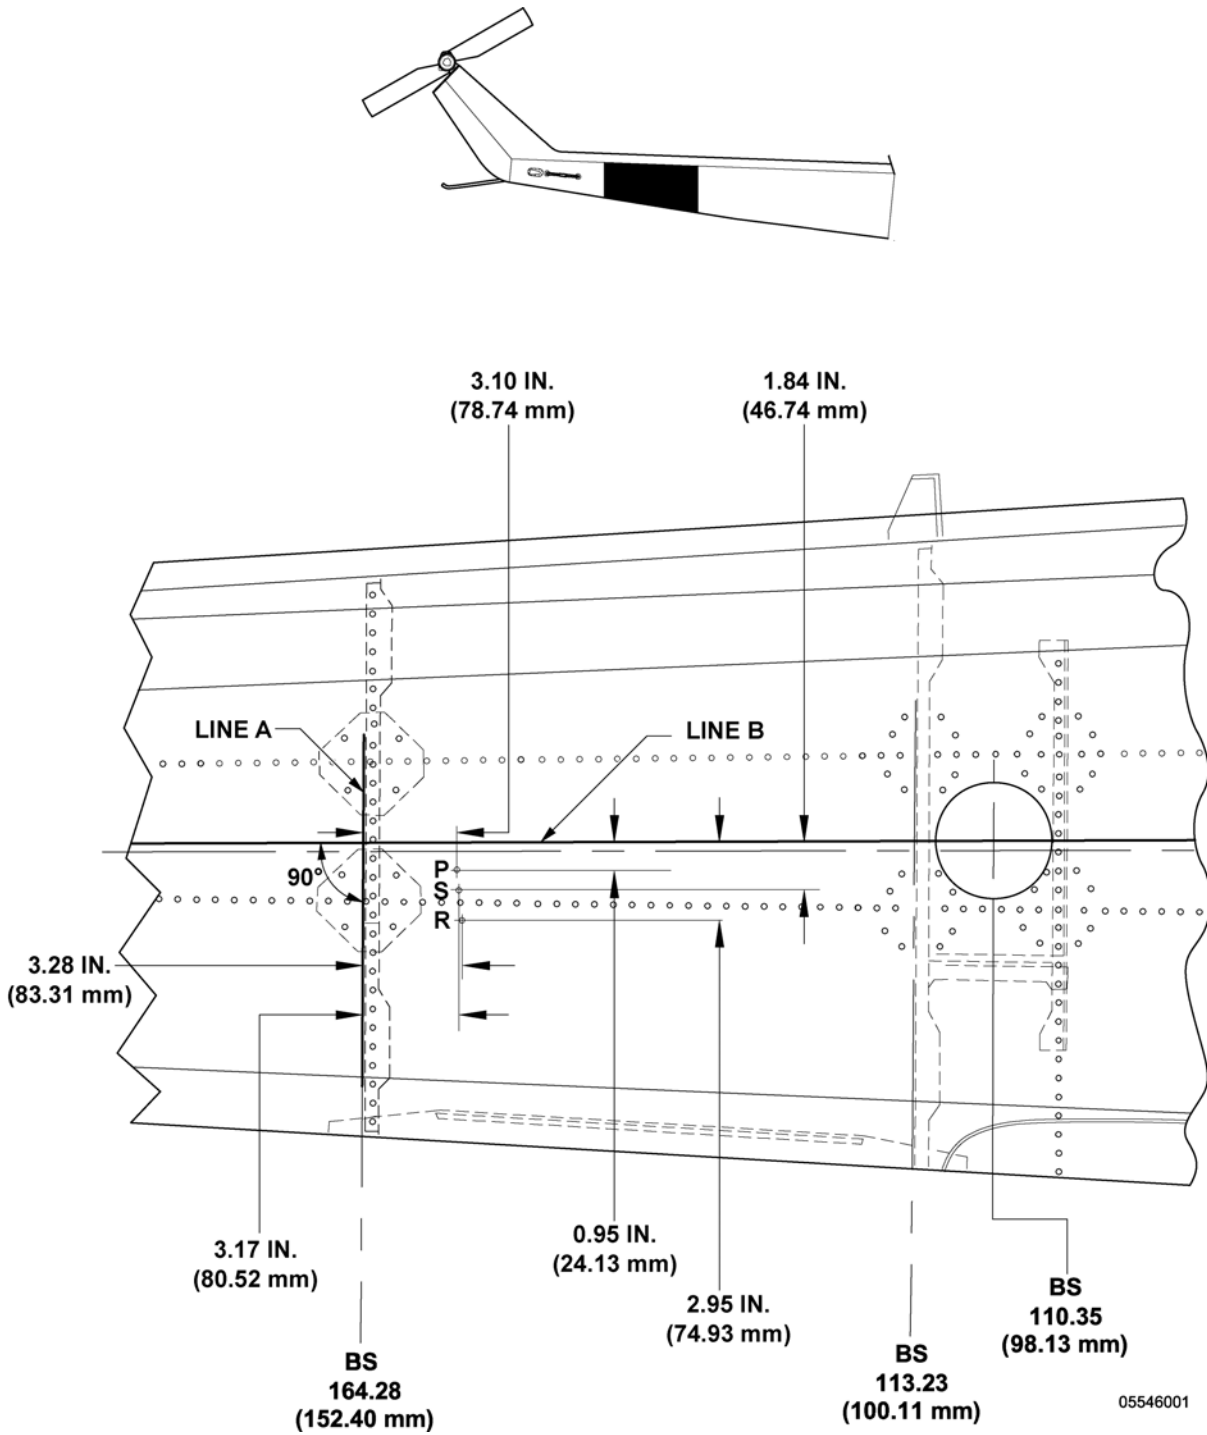

Figure 1
3. Locate position for rivets as follows (refer to Figure 1):
- c. Locate holes for rivets as shown on Figure 1. Drill and deburr holes (#27 size) for all 3 rivets, as shown on Figure 1. Hole for rivet "S" may interfere with nearby stringer. If such interference exists, remove enough rivets to insert a small protective sheet of CRES between stringer and skin. Using a 1/4" diameter router bit, remove minimum amount of metal from stringer to clear rivet tail. Deburr, remove protective sheet and reinstall rivets attaching stringer.
4. Install rivets "P", "R" and "S" (P/N NAS9304B-4-01), as shown on Figure 1. Apply primer to rivet tails and stringer. Touch up exterior paint.